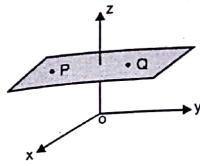

Fig. 6.1.1 : $Z = \text{constant}$ plane
- Consider a plane perpendicular to the z-axis as shown in Fig. 6.1.1. As, z-axis is vertical, a plane normal to z is horizontal, also xy plane is horizontal. Therefore xy plane and plane under consideration are parallel.